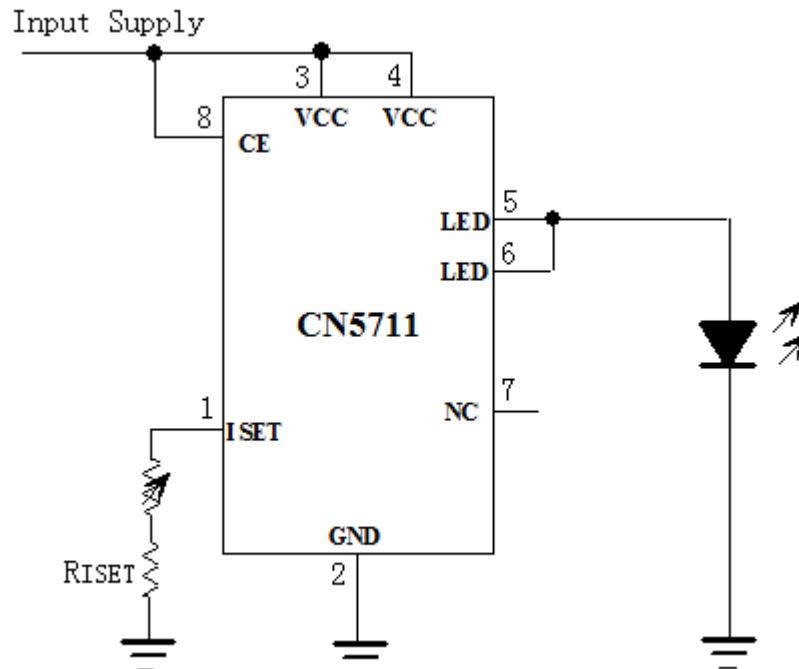

Figure 5 A Potentiometer to Dim the LED
**Method 3:** A potentiometer is used to dim the LED as shown in Figure 5.